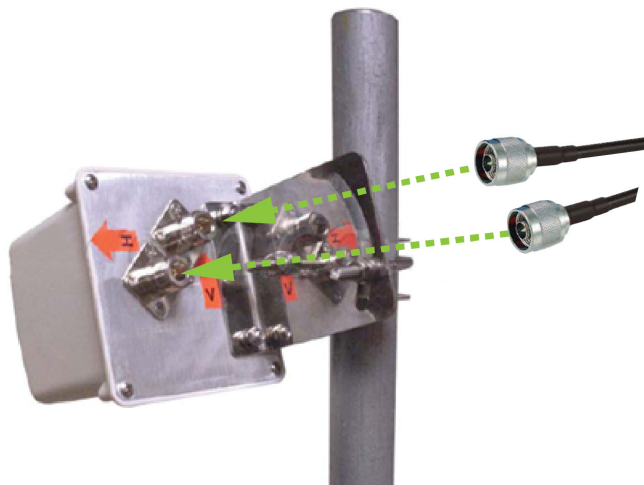

Figure 26. Installing Antennas to the Access Point
3. Connect cables to the connectors on the back panel of the antenna. Refer to Figure 26.